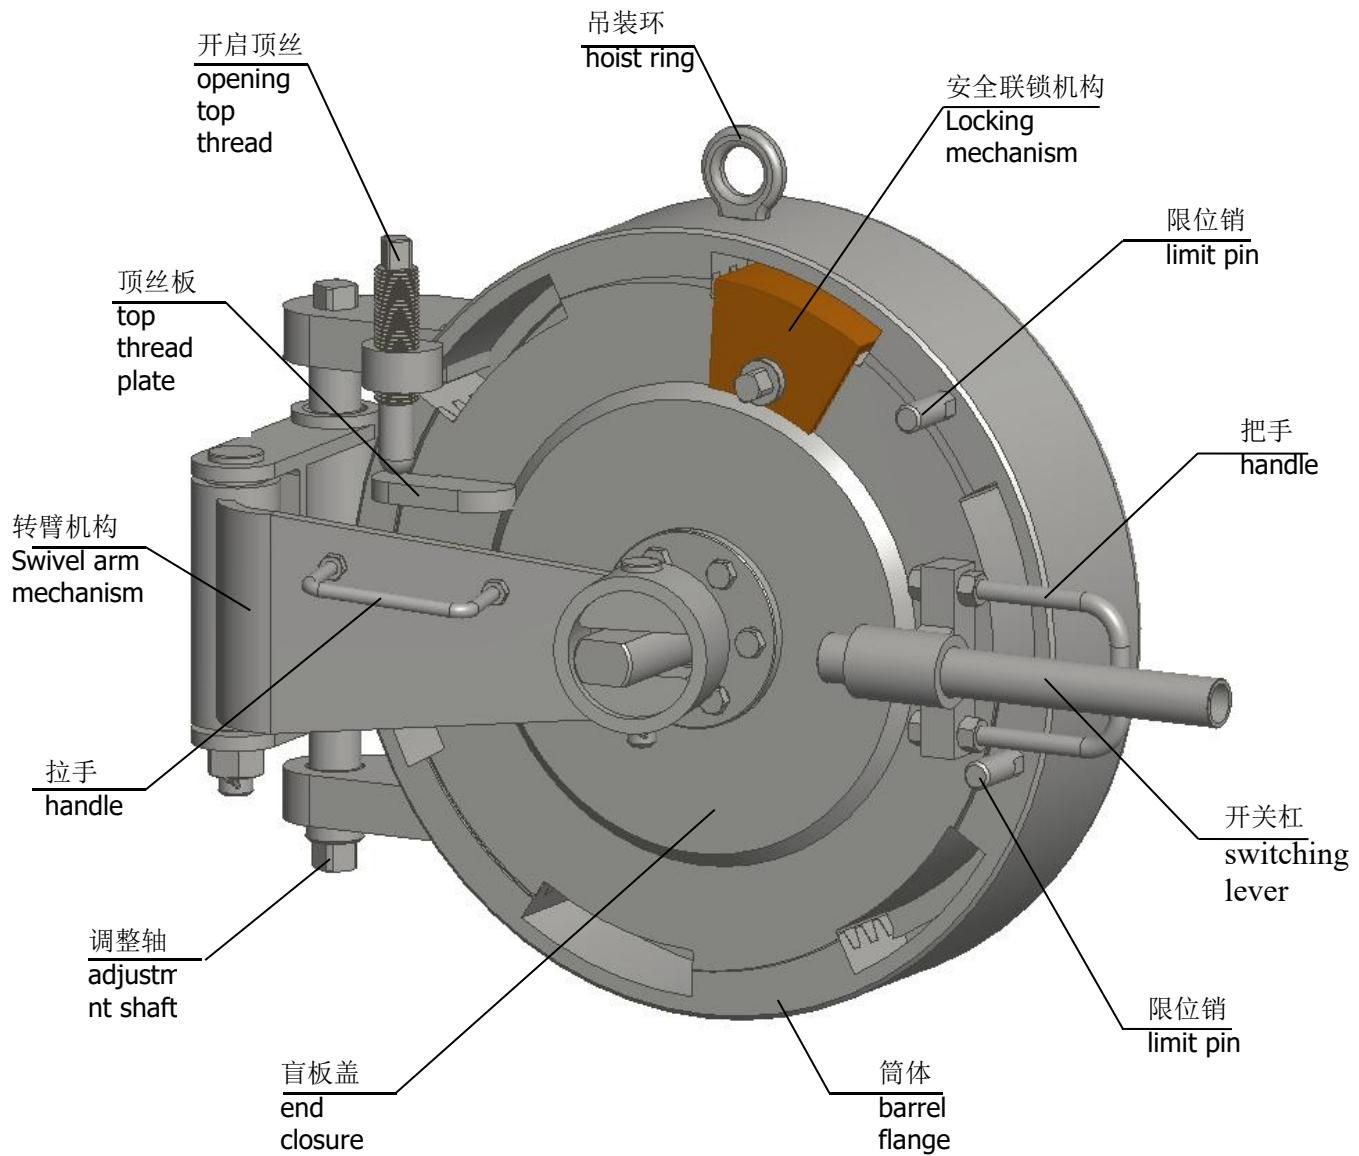

图 1(picture 1)
2) 按图 1 所示，卸下调整轴，对拆下的零部件应做好标记，妥善放置；
2) Remove the adjusting shaft as shown in Fig. 1. The removed parts should be labeled and properly placed;